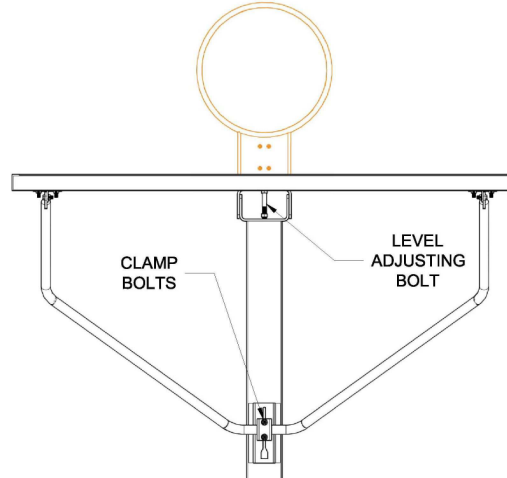

Figure 6
11. To level the backboard in the vertical plane, loosen the two carriage bolts at the board brace clamp on top of the boom. Refer to Figure 6. Using a 3/4" wrench, adjust the leveling bolt in the board mounting bracket until the backboard is plumb. Tighten the locking nuts on the leveling bolt.